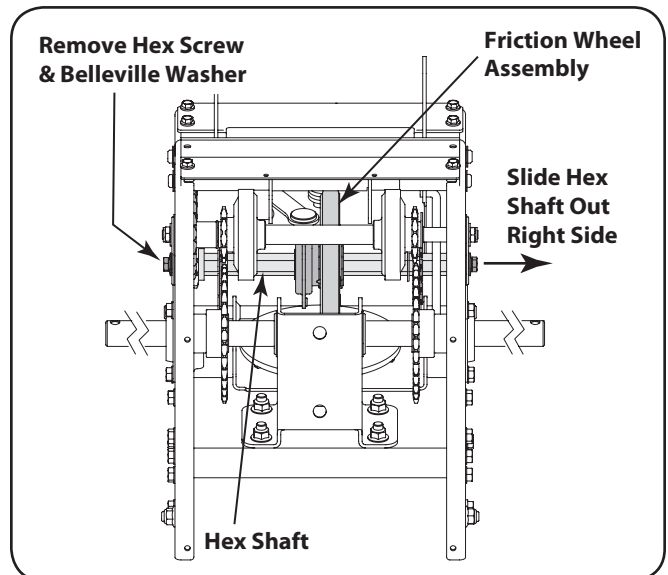

Figure 7-10
- Using a 3/4" wrench, hold the hex shaft and remove the hex screw and Belleville washer and bearing from left side of the frame. Refer to Figure 7-10.